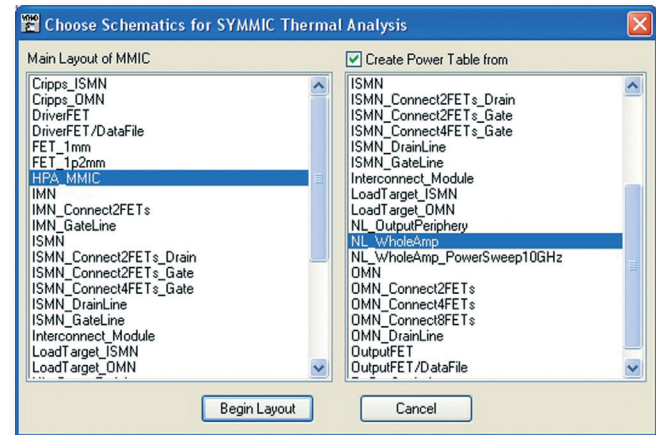

Figure 3. SYMMIC thermal analysis script - dialog 1: Selection of MMIC layout and MMIC electrical information.
1. First, run the script from the Script pull-down menu. Depending on how the script was installed in the AWR Design Environment, this script will appear in different places: global scripts or project scripts. (See the AWR Design Environment User Manual if you cannot find the script or the proper procedure for its installation.) The script begins by prompting you for the layout that will be used for the physical data and the schematic that will be used for the electrical information (figure 3).
3. Click Begin Layout. Two windows open. SYMMICLayout is a datafile window, which will be populated xml information describing the FETs and their location. SYMMICPwr is a table-formatted graph which will display the annotated power information from the TOT_PWRA annotations for the devices you select. Note: If you do not select the Create Power Table From checkbox in the dialog (figure 3), then the graph will not be created. The graph does not need to be created as the information can be read directly from the related schematic and entered manually in SYMMIC.